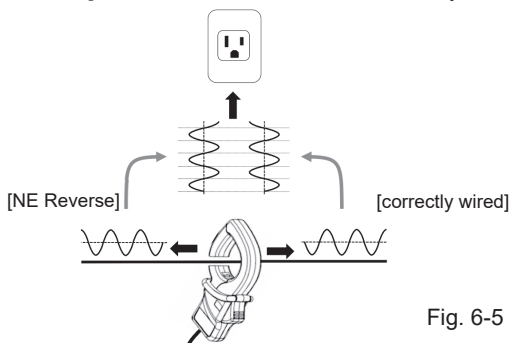
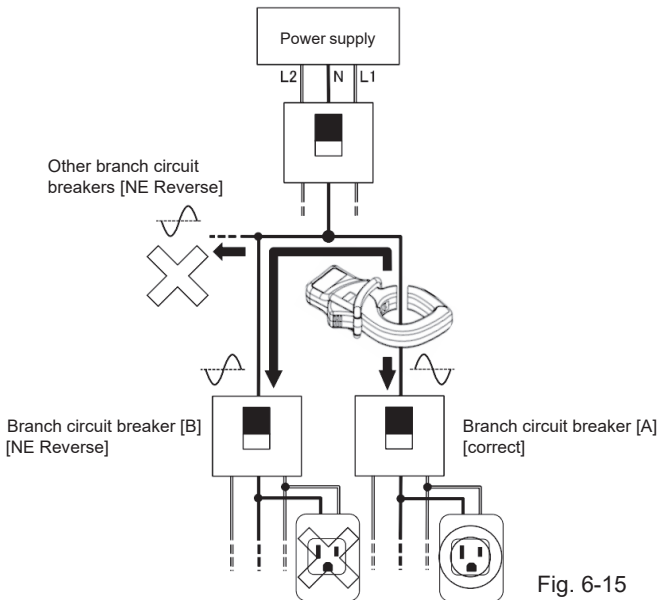
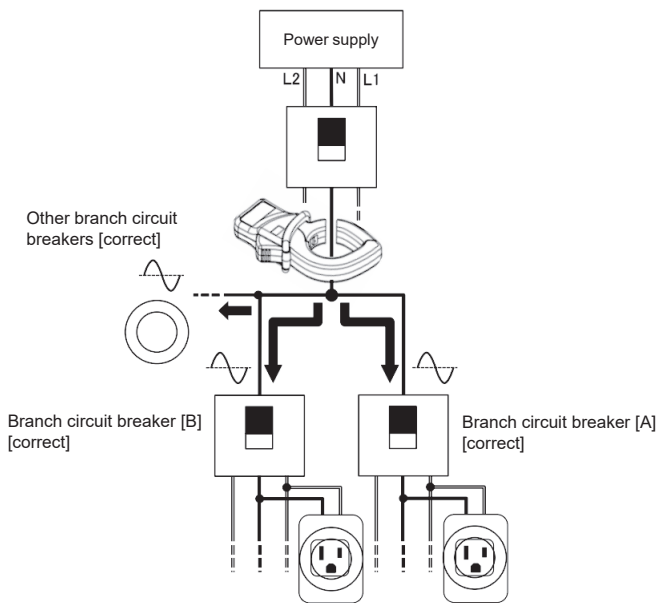

Fig. 6-5
Fig. 6-15
Fig. 6-16
- As shown in Fig. 6-5, the phase of test voltage applied to a neutral wire (N) changes 180-degree depending on the orientation of the test voltage injection clamp. KEW 4506 performs socket test based on the polarity (phase difference) of the test voltage signal; therefore, if the orientation of test voltage injection clamp is incorrect, KEW 4506 judges as [NE Reverse] even if the tested socket is correctly wired.
Depending on the orientation of the test voltage injection clamp, as explained with Fig. 6-5 at the previous clause, KEW 4506 may judge as [NE Reverse] even if the outlet is correctly wired as shown in Fig. 6-15 (outlet wired to branch circuit breaker [B]). Connect the test voltage injection clamp to the appropriate neutral wire (N) of the branch circuit breaker with the correct orientation and location.
- When the test voltage injection clamp is connected close to the distribution board, KEW 4506 can test the outlet which is wired to branch circuit breaker [B] shown in Fig. 6-15 and judge as “PASS” (correct); however, it is NOT recommended to connect test voltage injection clamp to the position shown in Fig. 6-16. This is because KEW 4506 may show “ $\Delta N \leftrightarrow E?$ ” if multiple loads are connected to an outlet wired from any of the other branch circuit breakers, which is not the one to be tested, and where those loads are active.